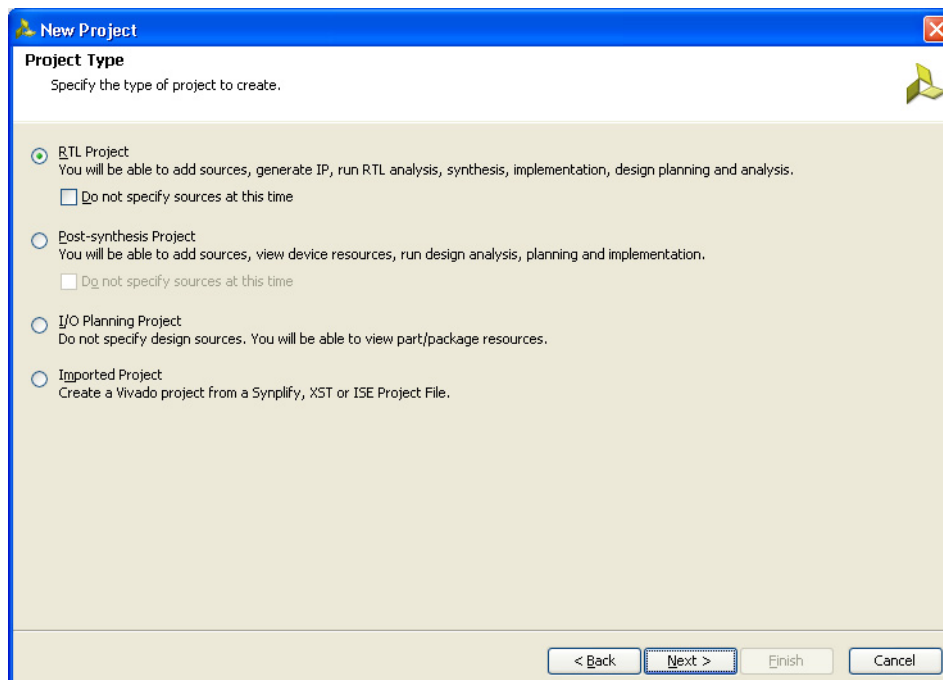

Figure 3-4: Project Type
4. Click **Next** to proceed to the Project Type page (Figure 3-4). Select the Project Type as RTL Project because MIG deliverables are RTL files.